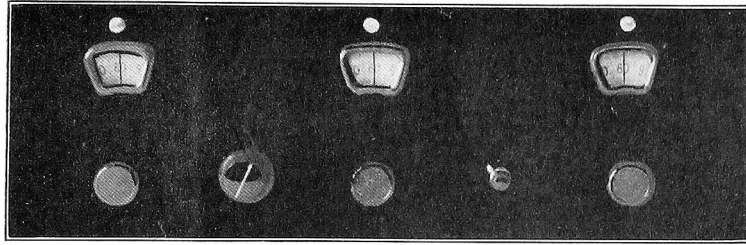

FIG. 539
(4)—A panel layout for this set is shown in Fig. 539. A seven inch high, twenty-four inch wide panel should be used. The filament switch is placed near to the control on the extreme right. The